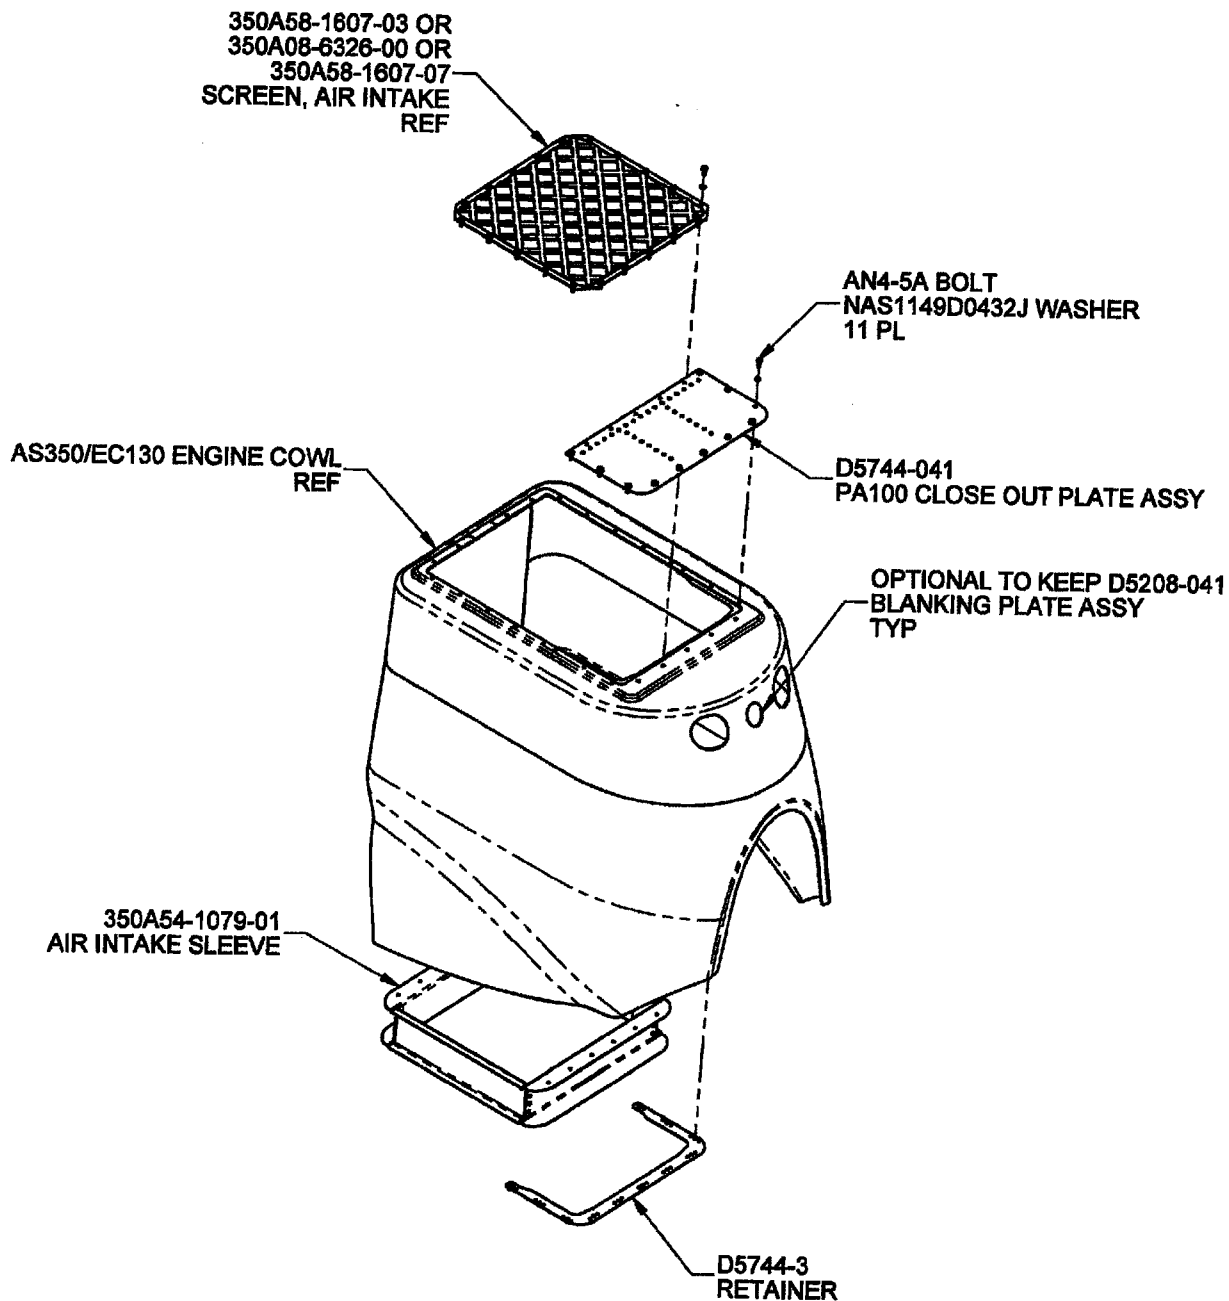

FIGURE 2 - D5744-041 CLOSE OUT PLATE ASSY & D5744-3 RETAINER INSTALLATION
14. Install the D5744-041 PA100 Close Out Plate on the upper cowl per Figure 2. Torque AN4 bolts 50-70 in-lbs (5.6-7.9 N-m).